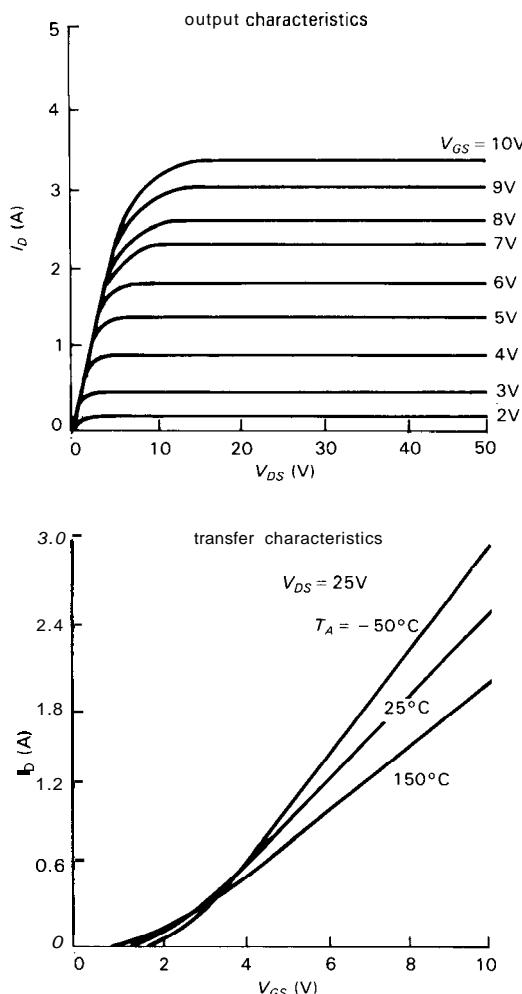

Figure 3.68. Drain characteristics of an n-channel low-threshold MOSFET (type TN0104).
1.5 volts (max)," which sounds fine until you read the fine print ("at $I_D = 1mA$ "). It takes considerably more gate voltage than $V_{GS(th)}$ to turn the MOSFET on fully (Fig. 3.68). However, the circuit will probably work OK, because (a) a HIGH TTL output is rarely less than +3 volts, and typically more like +3.5 volts, and (b) the TN01 further specifies " $R_{ON}(\text{typ}) = 5\Omega$ at $V_{GS} = 3V$."